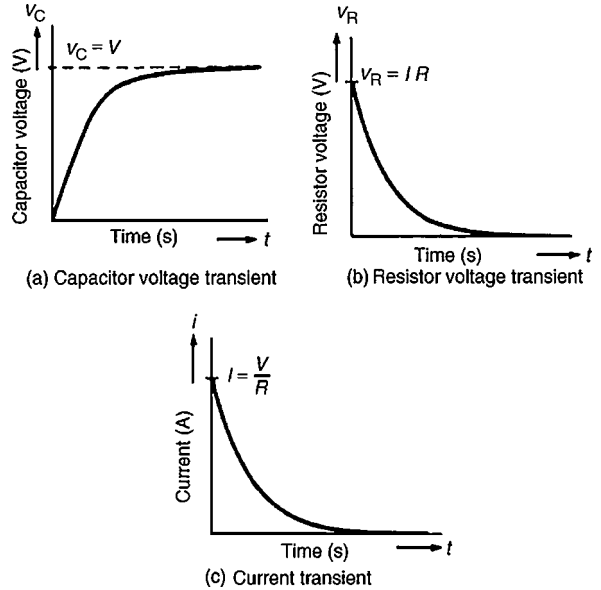

Figure 18.2
- (c) A short time later at time  $t_1$  seconds after closing  $S$ , the capacitor is partly charged to, say,  $q_1$  coulombs because current has been flowing. The voltage  $v_{C1}$  is now  $(q_1/C)$  volts. If the current flowing is  $i_1$  amperes, then the voltage drop across  $R$  has fallen to  $i_1 R$  volts. Thus, Equation (2) is now  $V = (q_1/C) + i_1 R$ .
- (e) Ultimately, a few seconds after closing  $S$ , (i.e. at the final or **steady state** condition), the capacitor is fully charged to, say,  $Q$  coulombs, current no longer flows, i.e.  $i = 0$ , and hence  $v_R = iR = 0$ . It follows from Equation (1) that  $v_C = V$ .
- (f) Curves showing the changes in  $v_C$ ,  $v_R$  and  $i$  with time are shown in Fig. 18.2
- (a) If a constant d.c. voltage is applied to a series connected  $C - R$  circuit, a transient curve of capacitor voltage  $v_C$  is as shown in Fig. 18.2(a).
The transient curves shown in Fig. 18.2 have mathematical equations, obtained by solving the differential equations representing the circuit. The equations of the curves are: